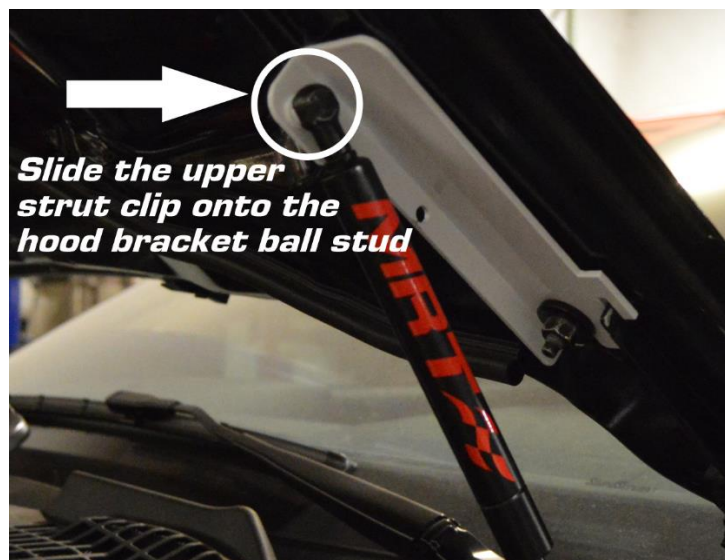

Figure 7
- 10.) You may need to rotate the upper portion of the cylinder 180 degrees before the upper portion will properly align with the hood mounting bracket. Once it's lined up, press the upper socket of the cylinder onto the ball stud of the hood mounting bracket. (fig 7)